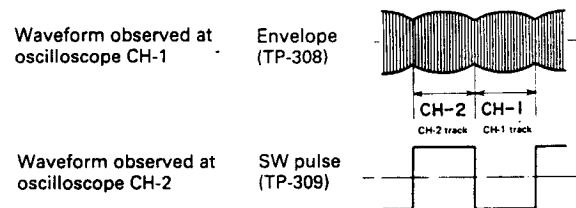

Figure 27.
- 2) Observe envelope by triggering with SW pulse (see Figure 27).